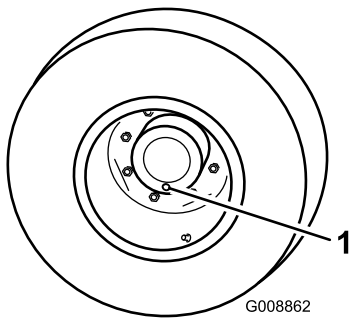

Figure 74
1. With the machine on a level surface, position the wheel so that the check/drain plug (Figure 74) is at the lowest position.